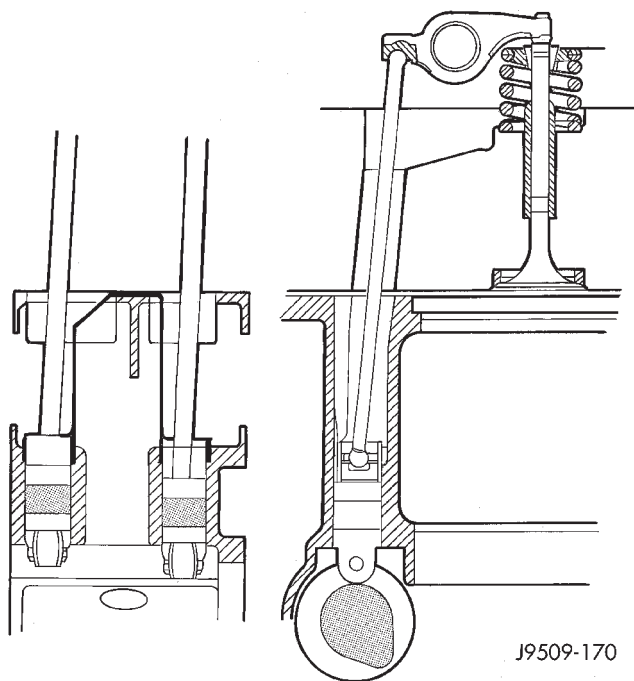
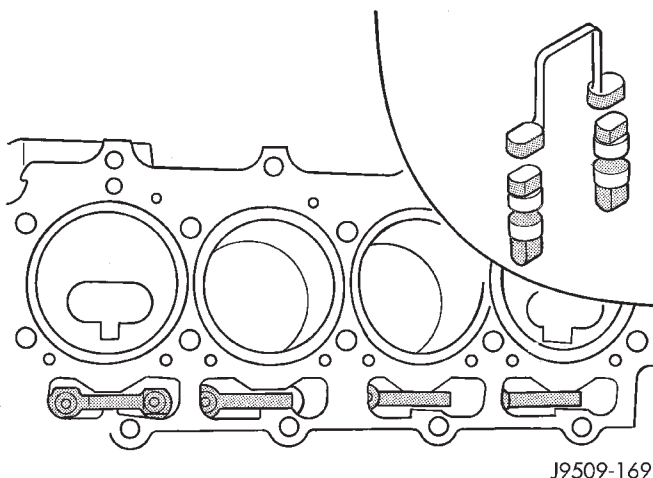

Fig. 13 Tappet And Rocker Arm Assembly
Fig. 14 Tappet And Yoke
- (1) Remove the air cleaner.
- (2) Remove cylinder head cover (refer to cylinder valve cover removal in this section).
- (3) Remove rocker assembly and push rods (Fig. 13). Identify push rods to ensure installation in original location.
- (4) Remove cylinder head, intake manifold, and exhaust manifold, refer to cylinder head removal in this section.
- (5) Remove yoke retainer and aligning yokes (Fig. 14).